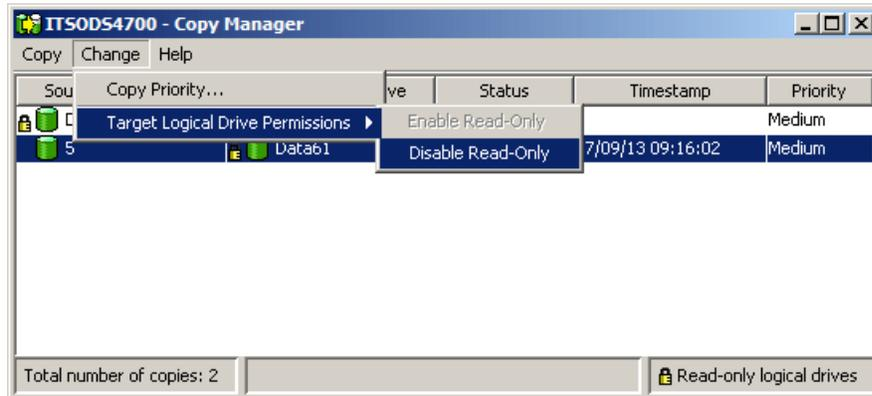

Figure 9-18 Copy Manager: Disable Read-Only menu
3. Select either the **Change** → **Target Logical Drive Permissions** → **Disable Read-Only** pull-down menu option or **Disable Read-Only** from the right-mouse pop-up menu (Figure 9-18).